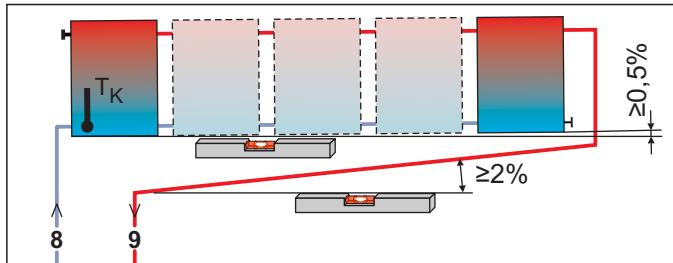
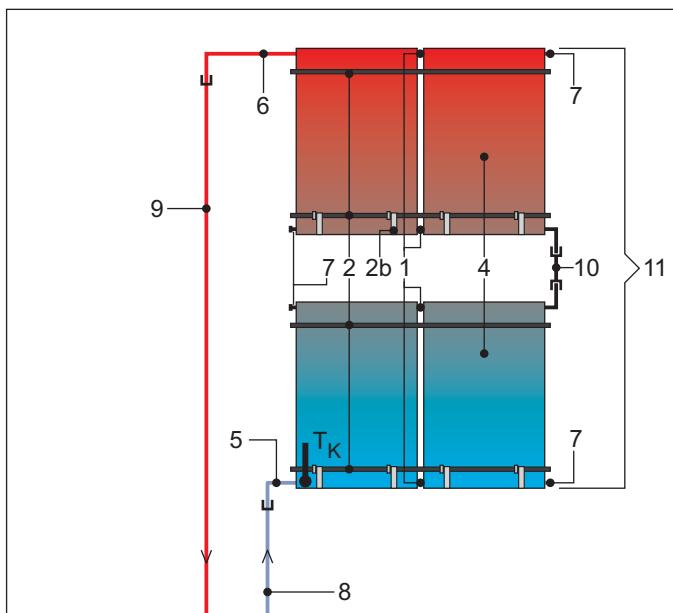
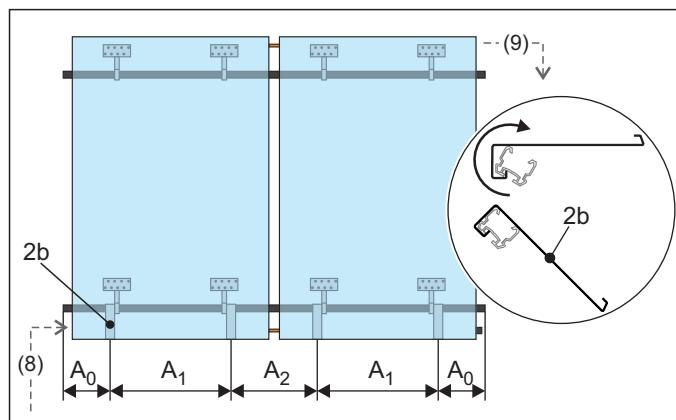

Fig. 4-1 Two-way connected solar panel array (recommended)
Fig. 4-3 Alternative solar panel arrangement
Fig. 4-8 Step 1: Alignment of the securing clips
As an alternative to the parallel circuits of the solar panels described in these instructions, a maximum of three rows of solar panels can also be installed above one another if required. Solar panels or solar panel arrays installed in this way must be connected in series (fig. 4-3).
Tab. 4-1 Legend for fig. 4-1 to fig. 4-3 and fig. 4-8
- The inflow connecting pipe (VA15 Solar) must be connected to the top and the return flow connecting pipe (VA18 Solar) to the bottom of the solar panel (see fig. 4-1 to fig. 4-3 and fig. 4-8).
After they have been hooked on, the solar panel securing clips can be moved sideways (see fig. 4-8 and tab. 4-3).